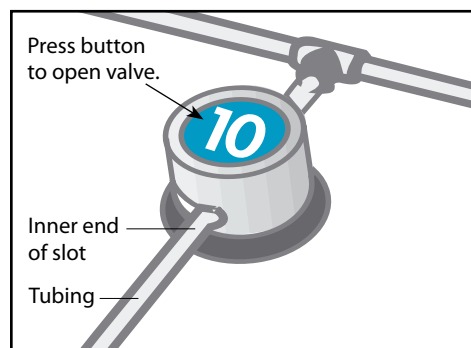

Figure 35: Correctly inserted tubing.
- If the tubing has to be adjusted after a valve has been closed, do not pull the tubing without pressing the valve button to open the valve (see fig. 35).
2. Re-inspect the tubing in each valve. Be certain that the tubing enters and leaves each valve through the enlargement at the inner end of the slot and is positioned in the center of the jaws of the valve (see fig. 35). Check that the tubing is not kinked or twisted and does not show any tendency to move away from the center of the pinch valve.